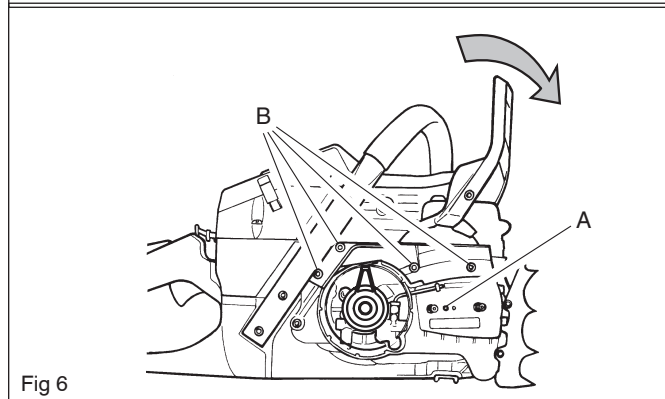

Fig 6
8. Remove the four screws (B) and the cover over the chain brake mechanism. See fig. 6.